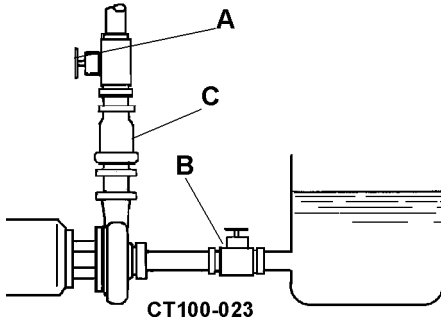

Figure 21 - Pump Below Supply
1. Fill the supply tank with liquid; open the supply line (suction) valve (Figure 21, item B).
2. Vent any air trapped in the supply line or casing by opening the discharge valve (Figure 21, item A).
**NOTE:** Use a check valve system (Figure 21, item C) to keep the supply line and pump casing flooded with liquid; otherwise the pump must be primed before each operation.